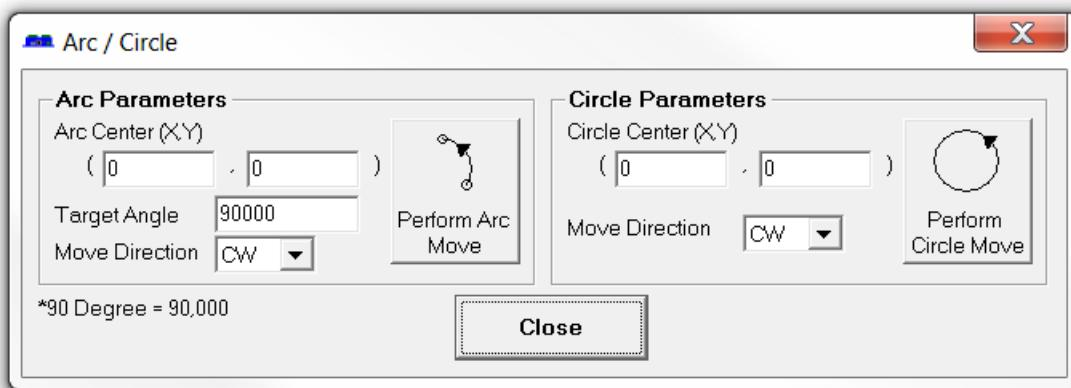

Figure 7.6
22. Arc/Circle Tool – Clicking on this button will provide the user with an interface to perform Arc/Circle XY moves. This will bring up the window shown in figure 7.6